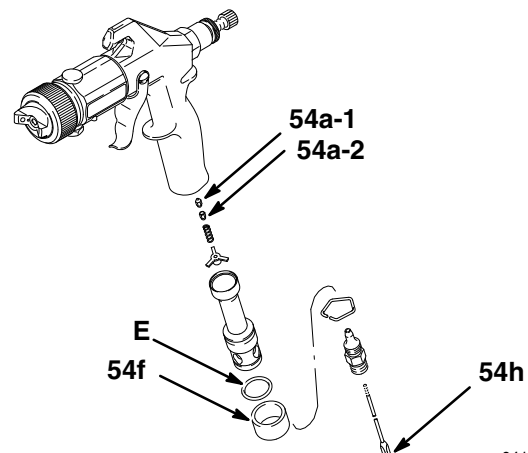

Fig. 23
After cleaning or servicing the gun, lubricate the parts indicated in Fig. 22 and Fig. 23 with silicone-free spray gun lubricant or similar material. It is recommended that Lubricant 111–265 be used (see Accessories).
- All threaded areas (A)
- Trigger screws (B)
- Trigger axle (C)
- Fluid needle assembly (D) – where indicated
- O-ring on venturi (E) (see Fig. 23)
1. Be sure that the venturi parts are fully seated into the spray gun handle and that the locking screw on the spindle (54h) is tight. See Fig. 23.